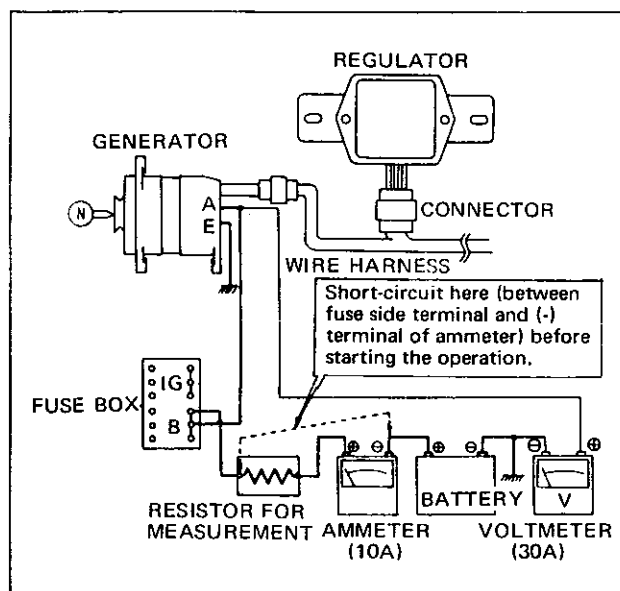

Fig. EE-64 Regulating voltage measuring circuit with regulator mounted on the vehicles
(1) Use the same equipment as for the theoretical method, and connect them as shown in Figure EE-64. Install the regulator perpendicularly by facing the connector downward in this case, also.
(2) Make sure that all electrical loads (such as head lamps, air conditioner, radio, etc.) on the vehicle have been interrupted.
(3) Before starting the operation, be sure to short-circuit the line between fuse side terminal of the resistor for voltage measurement and (−) terminal of the ammeter. Pointer of the ammeter may deflect rapidly and reversely due to discharge current flowing from the battery resulting damaged ammeter. (See Figure EE-64.)